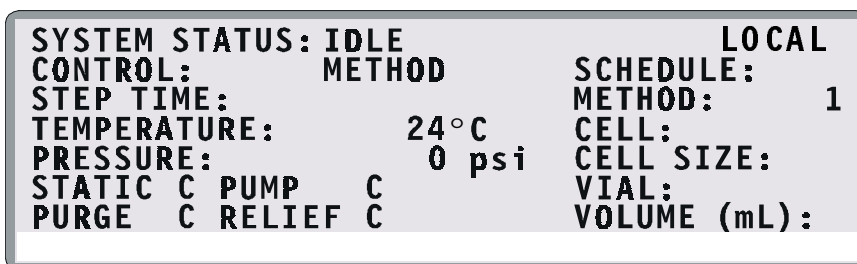

Figure 3-18. Current Status Screen
7. Move the cursor to the **NUMBER** field and enter the number of the method. Press **Enter** or a cursor arrow. This closes the **LOAD METHOD OR SCHEDULE** screen and opens the **CURRENT STATUS** screen, displaying the method number and the status of other ASE 200 operating parameters (see Figure 3-18).